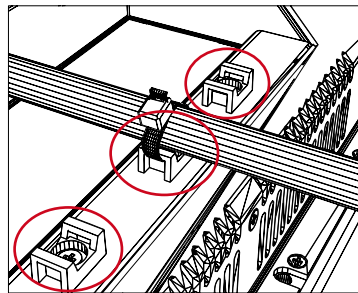

FIG 1
- 2: Unmount the fasteners. (FIG 1)
- 4: Secure the cable tightly with fasteners (FIG 3, FIG 1)
For certain models a base mounted clamp is available (FIG 1). For other models a hinge in the chassis is available (FIG 2).